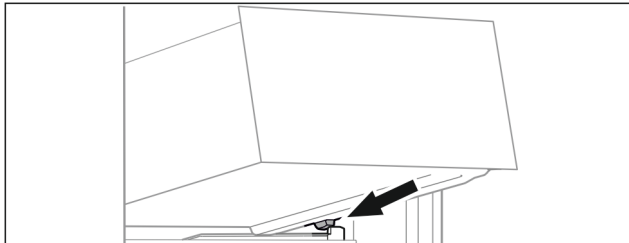

Fig. 114
- Place drawer at an angle behind the stoppers on the moulded rib. (see Fig. 114)